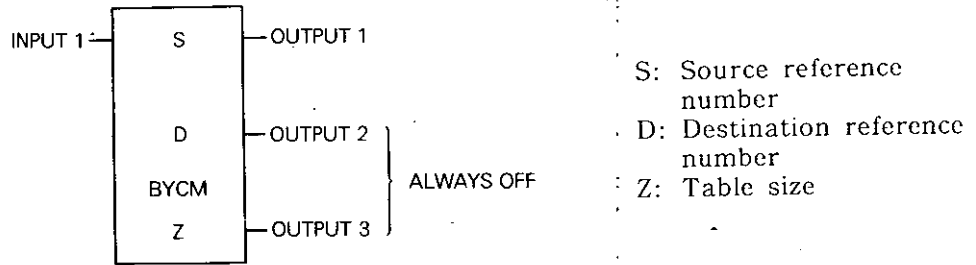

Fig. 5.77 BYCM General Form
- Fig. 5.77 shows the form of byte composition.